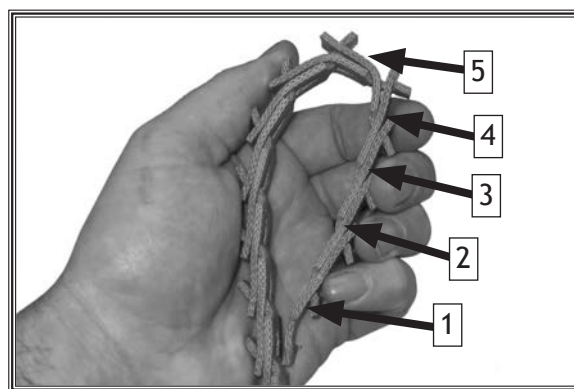

Figure 7. Bending belt inside-out at the 5th link.
1. Count 5 links away from the end of the belt, turn the belt inside out and squeeze it together where the 5th link connects, as shown in **Figure 7**.
3. Bend the belt backwards (similar to **Figure 7**), twist the second tab, and push it through the hole.